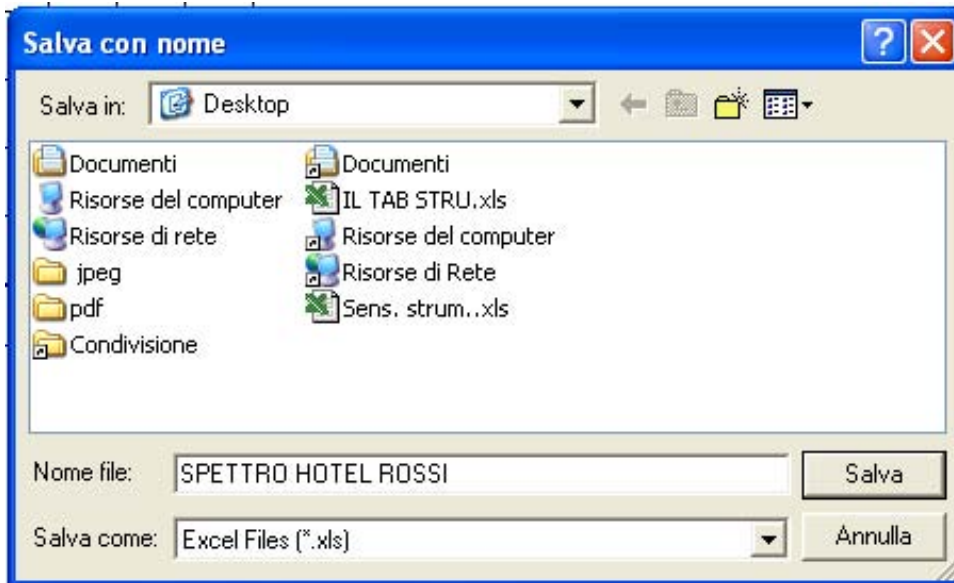

Figure 5.2
- e) Chose file type .XLS (See Fig. 5.2),
- d) Chose the file type .XLS (See Fig. 5.2),